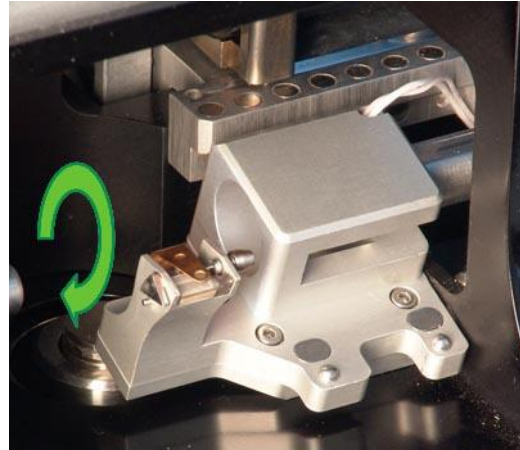

Fig. 6-13
- b) Turn the measuring head to you manually (Fig. 6-13).